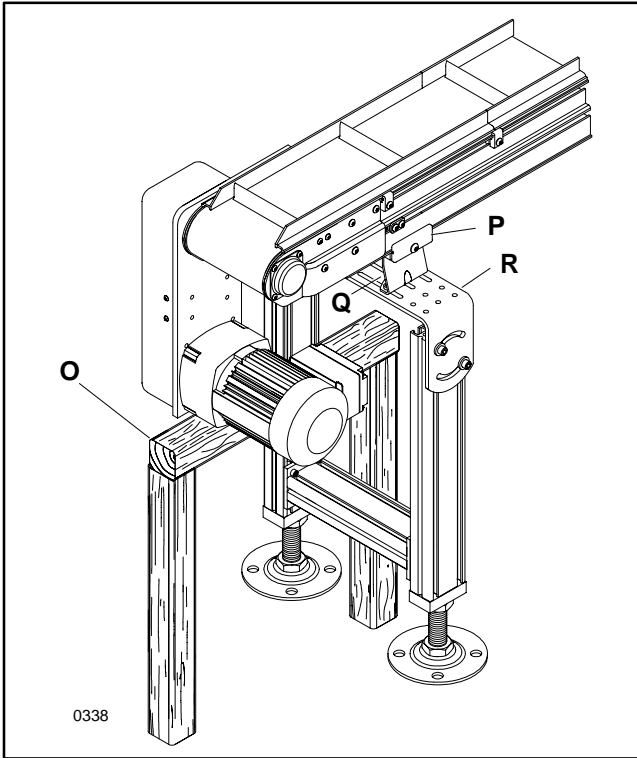

Figure 29
To prevent injury, make sure all electrical power has been disconnected before you perform any maintenance, make any adjustments or replace any components. In addition, the weight of the gearmotor is all on one end of the conveyor. This could cause the conveyor and stand to tip over when the anchor components are removed. There should be some form of extra support (O of Figure 29) for the gearmotor while the conveyor belt is being changed.
1. Referring to Figure 29, safely and temporarily support the conveyor section with a sturdy support mechanism (O) (such as wooden blocks or a sawhorse).
2. Remove and retain the mounting clamp plate screw and clamp plate (P of Figure 29) from the conveyor.
3. Detach and retain the mounting clamp bracket (Q) from the top plate (R) on the side opposite the gearmotor.